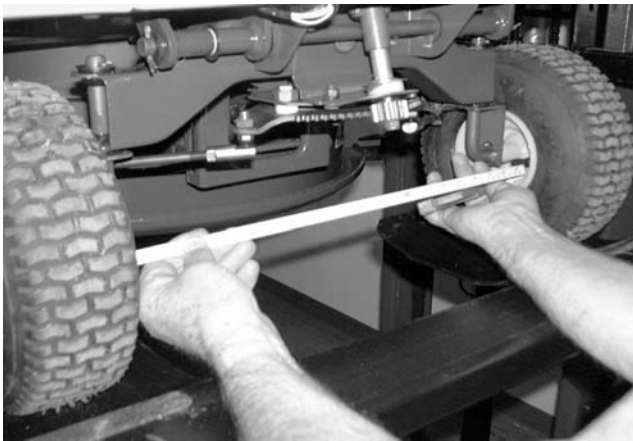

Figure 8-26.
4. In front of the axle, measure the distance horizontally from the inside of the left rim, to the inside of the right rim. See Figure 8-26.